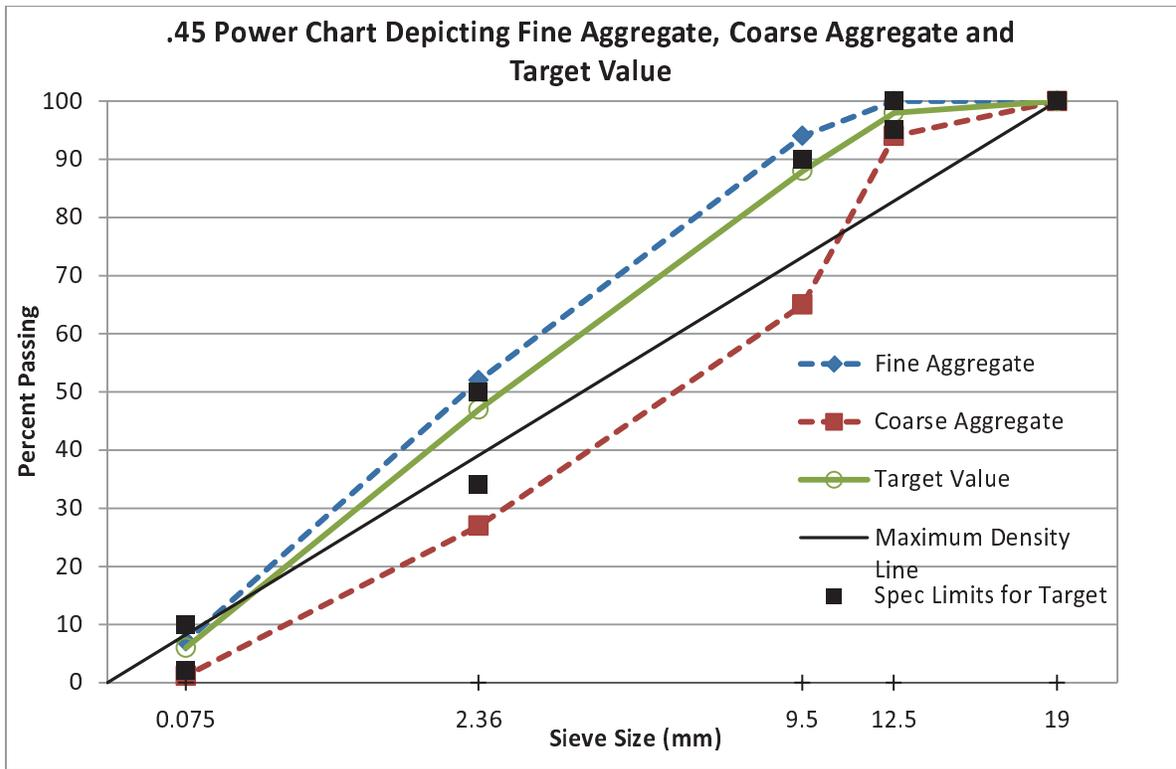

Figure 7-5: Data from Step 3 Plotted on the .45 Power Chart
- Data resulting from this step is presented in the blending worksheet shown below and in Figure 7-5.